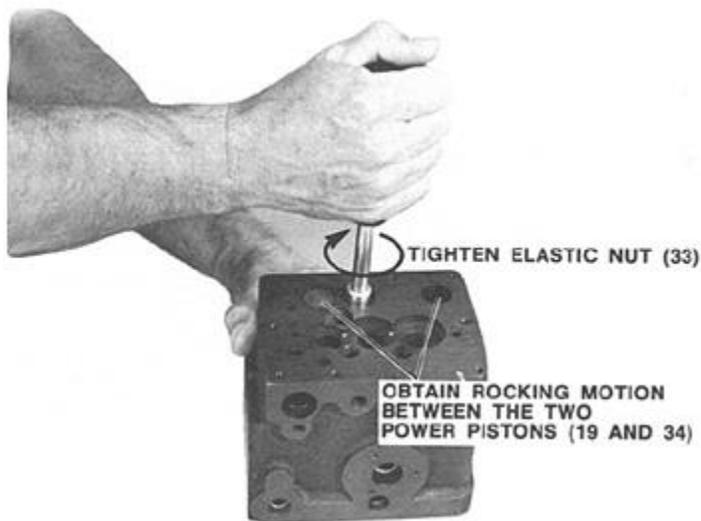
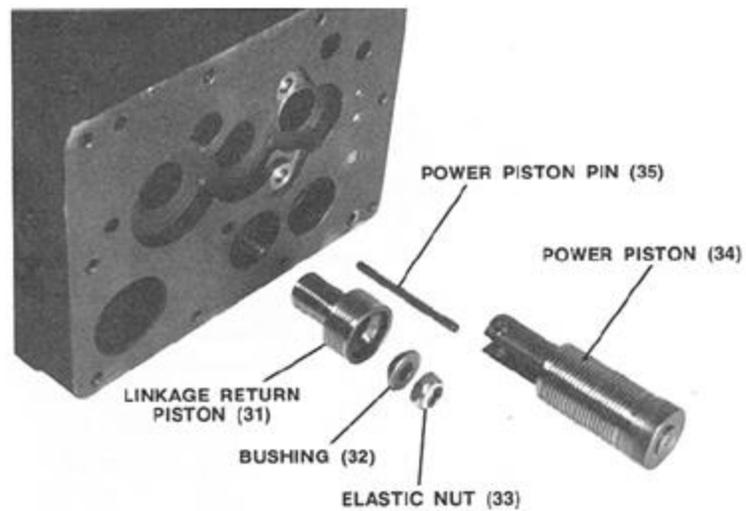

Figure 5-17a. Obtaining Rocking Motion In Power Pistons
Figure 5-18. Piston Placement
16. Refer to Figures 5-18 and 5-19.
- A. Insert pin (35) into power piston (34). Place this assembly in case.
- B. Attach solid end of piston link (36) to power piston (34) with headed pin (37), and secure with a cotter pin.
- C. Place piston (31), pivot washer (32), and elastic stop nut (33) into the case as shown. Thread nut (33) onto pivot link (23) nine to nine and a half turns.
- (1) First tighten elastic nut (33) until a rocking motion is obtained when pushing alternately on pistons (19) & (34) in a teeter-totter motion. See Figure 5-17a.